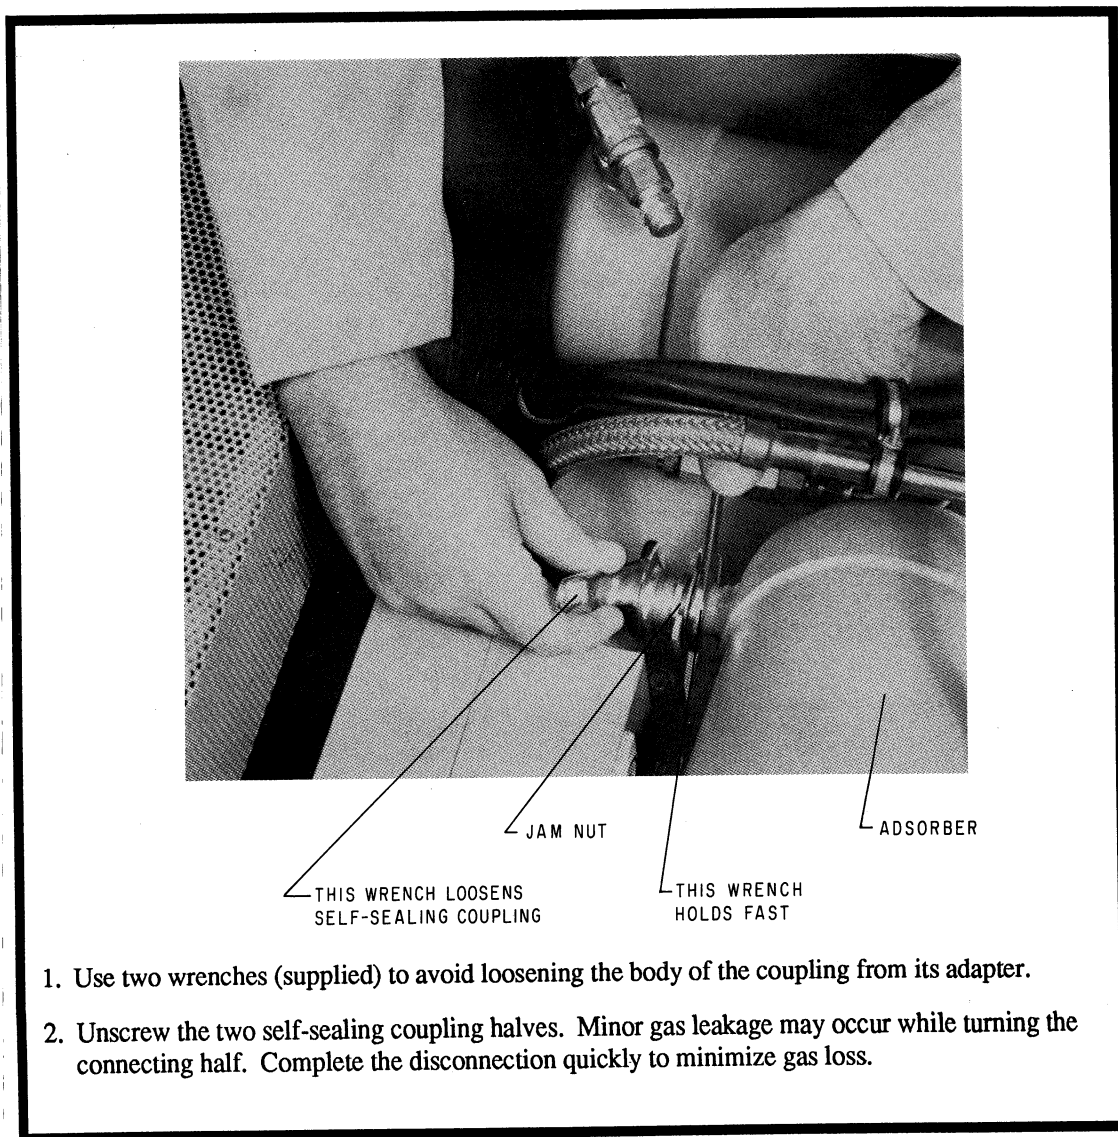

Figure 5.1 Procedure for disconnecting a self-sealing coupling
2. Disconnect the self-sealing couplings (Figure 5.1) from the gas-return and gas-supply connectors at the rear of the compressor.
6. Remove the adsorber from the compressor as shown in Figure 5.2, disconnecting the self-sealing couplings per Figure 5.1.
3. Disconnect the self-sealing couplings from the gas return and gas supply connectors at the rear of the compressor as shown in Figure 5.1.
7. After this oil-system priming period, turn OFF the compressor and remove the oil-priming manifold per Figure 5.1.